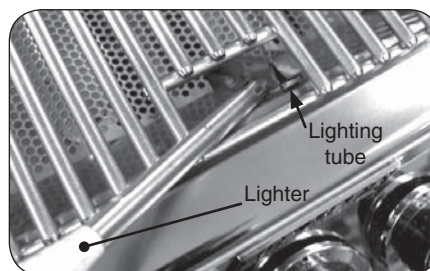

Fig. 13-2 - Manual lighting
2. Insert either a burning long-barrel butane lighter or a burning long-stem match through the cooking grid opening to the top of the lighting tube. (Fig. 13-2). For backburners, hold the flame against the perforated material of the backburner.
4. If the burner does not light, **immediately depress the knob and turn the valve to OFF**. **WAIT FIVE (5) MINUTES** before repeating steps 2 through 4 of the **MANUAL LIGHTING** instructions.